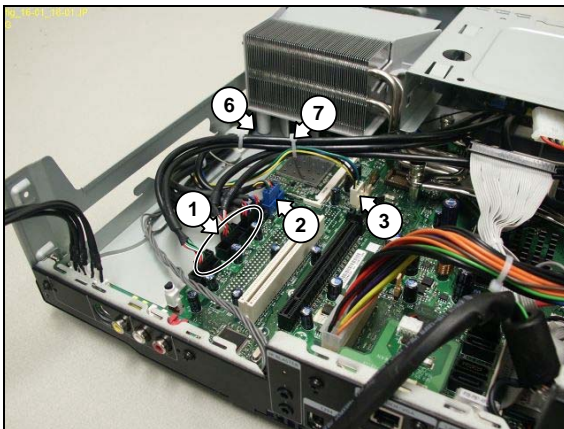

Figure 12.15-1
6. Disconnect the 3 USB cables (1) from the motherboard. See Figure 12.15-1.
7. Disconnect the 1394 cable (2) from the motherboard. See Figure 12.15-1.
8. Disconnect the CPU fan cable (3) from the motherboard. See Figure 12.15-1.
**Note:** Make sure that the CPU heat sink duct is correctly seated on the chassis locating point (6). See Figure 12.15-1.
**Note:** The torque setting required for the CPU heat sink mounting screws (5) is 6kg-cm
2. Remove the cable tie (7) from the CPU fan cable. See Figure 12.15-1.